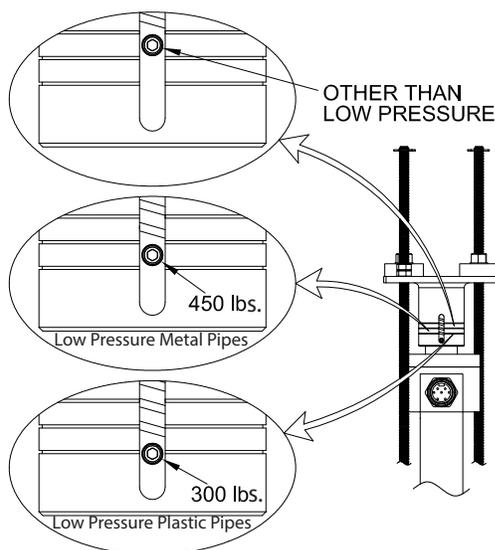

Figure 14: Sensor Load Indicators
A compression load is required to be applied at the top of the *sensor* forcing the bottom of the *sensor* to seat firmly against the far wall of the pipe. The amount of load is indicated by the three lines etched into the top plate and the location of the set screw relative to the lines. See Figure 14 and the table below.
1. Rotate the two captive nuts on the top plate simultaneously and evenly until the proper load is indicated by the set screw's relationship to the lines etched on the top plate. See Figure 14.